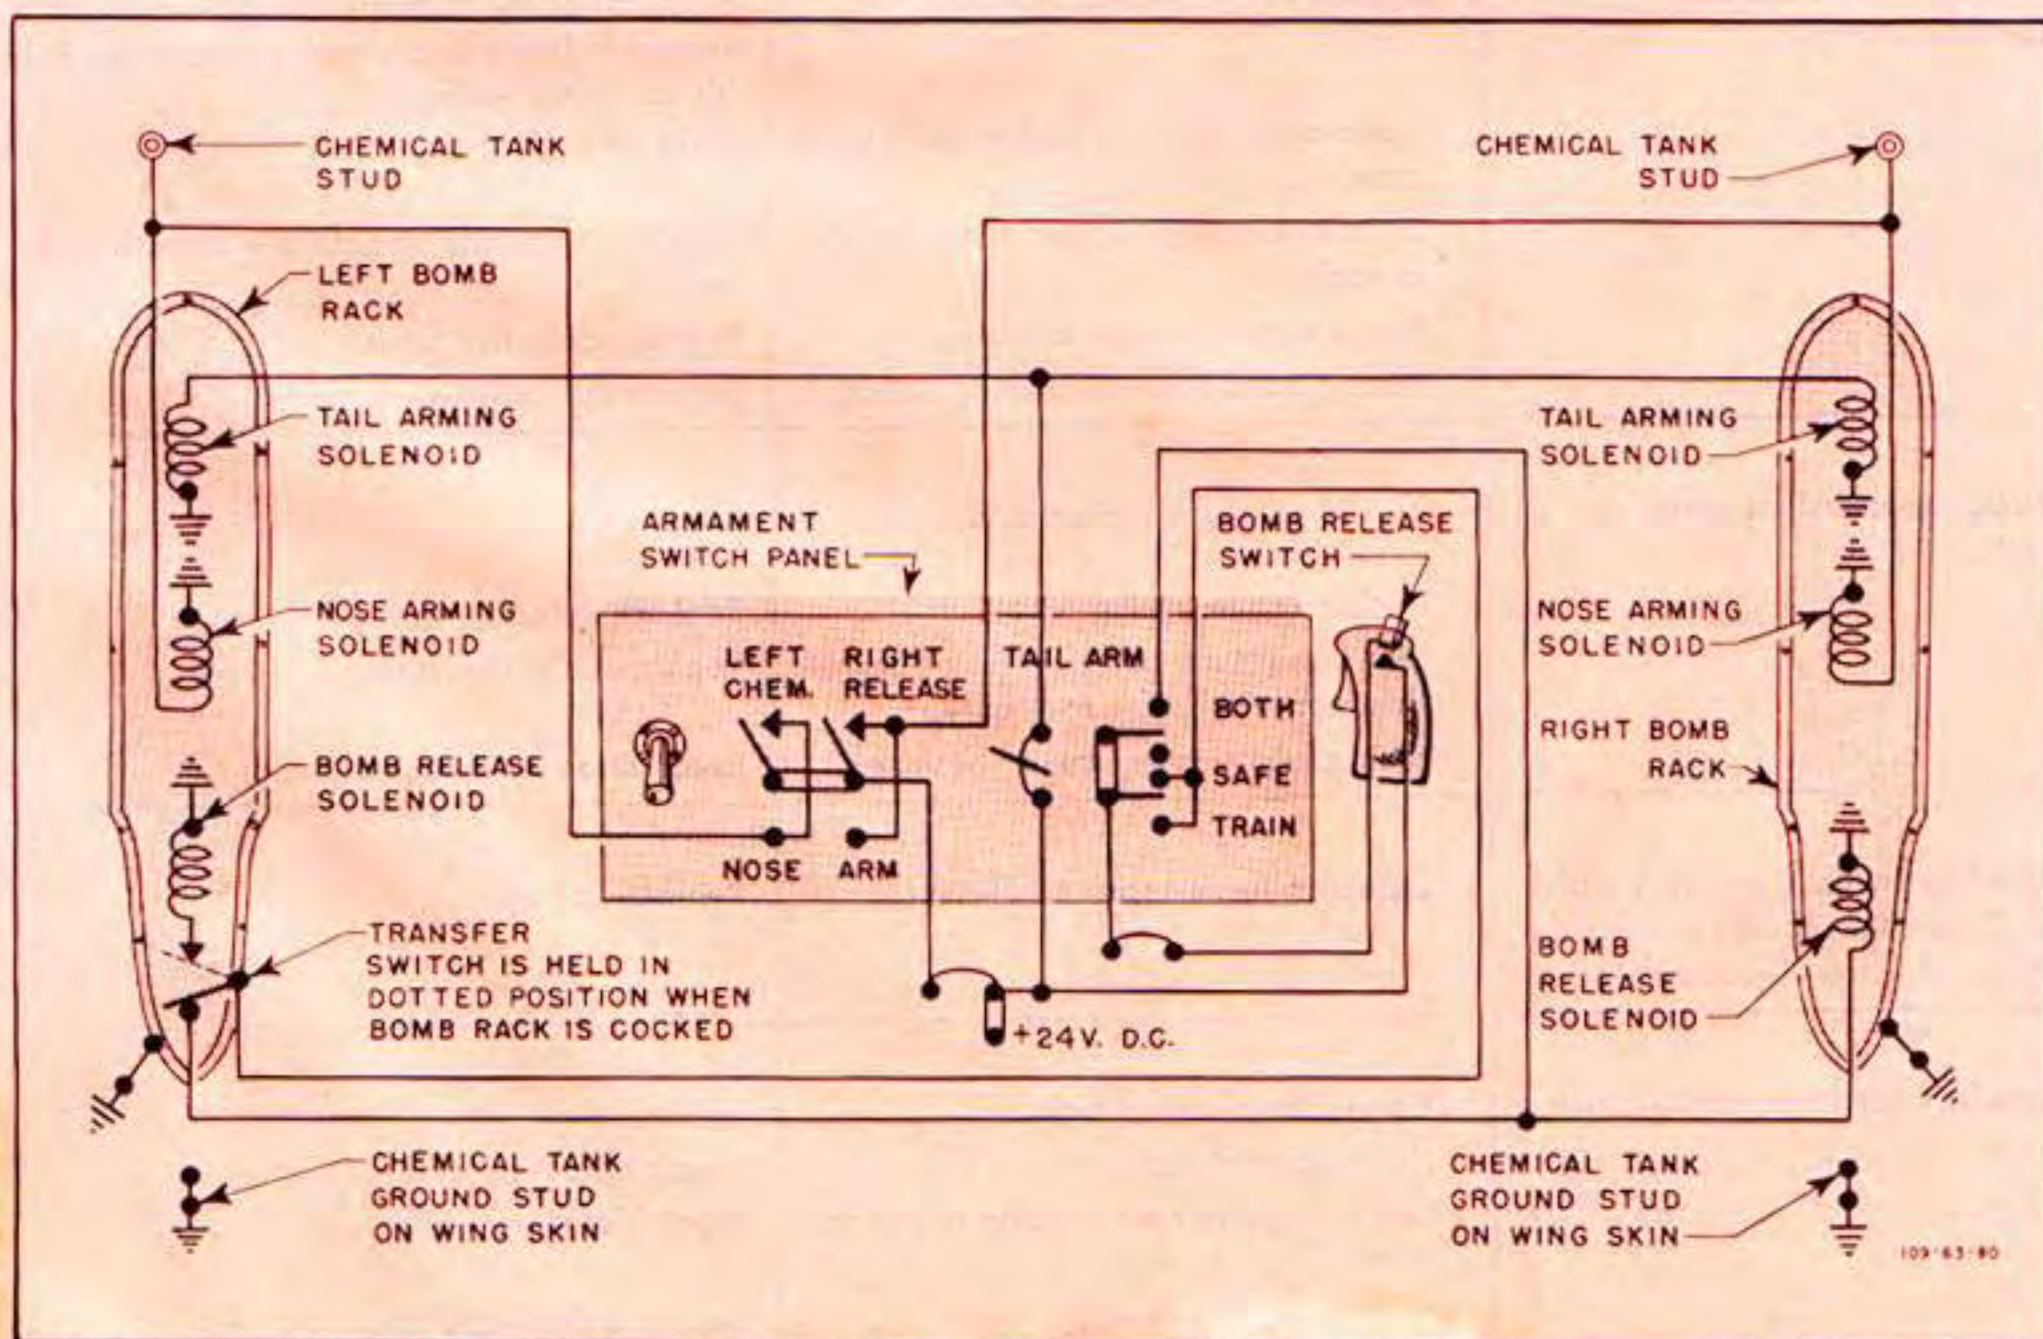

Figure 424—Electrical Bomb Release System—Early Airplanes
c. ELECTRICAL BOMB RELEASE SYSTEM.—The electrical system is used for the selection of nose and tail arming of bombs and for the normal release of bombs, or for ignition and release of chemical tanks when they are installed. (See figure 424.) When the bomb release switch is pressed with the racks cocked and the safe-selector switch on "TRAIN" ("SEL" on early airplanes), the left bomb rack release solenoid is energized and trips the rack lock mechanism through interconnecting linkage. When the bomb release switch is released, the solenoid is de-energized, permitting the transfer switch to close. When the bomb release switch is pressed again, current is routed through the transfer switch to the right bomb rack release solenoid. Cocking the left rack resets the transfer switch. When the bomb release switch is pressed with the safe-selector switch on "BOTH," the racks release simultaneously. Refer to paragraph 20 of this section for detailed wiring diagrams.